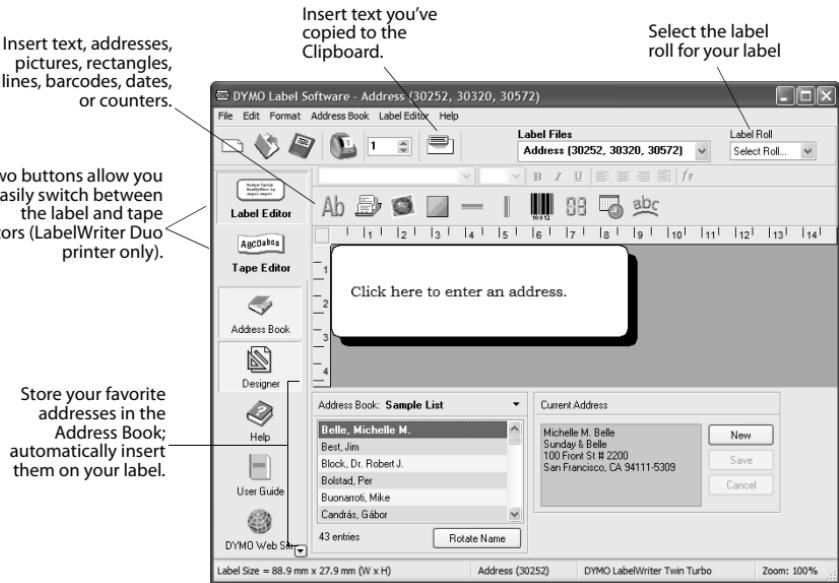

Figure 11
- 4 Choose **Left Roll** or **Right Roll** from the **Label Roll** drop-down list to select the side of the printer where the address labels are loaded. See Figure 11.
Figure 11 highlights some of the major features available in DYMO Label Software.